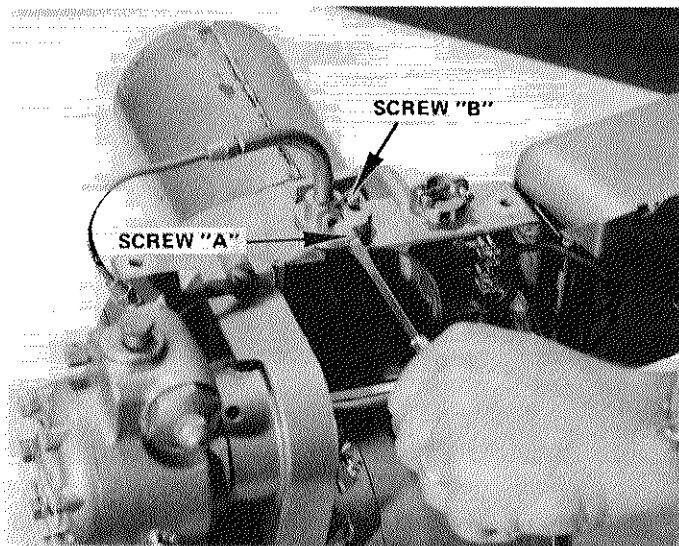
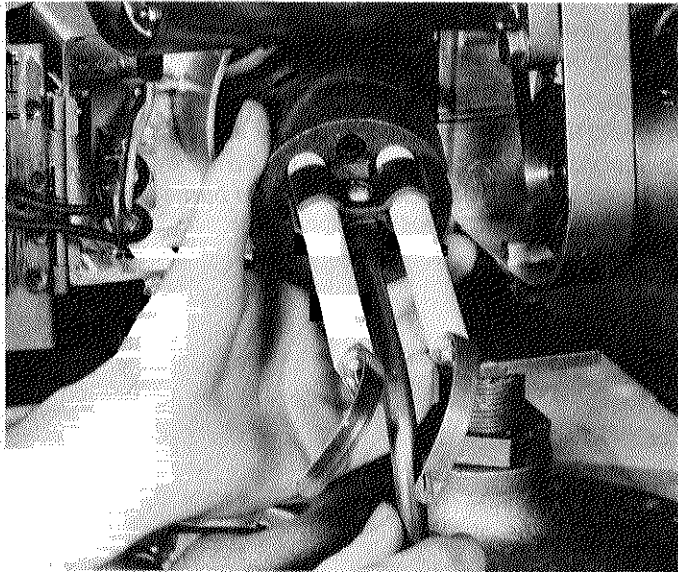
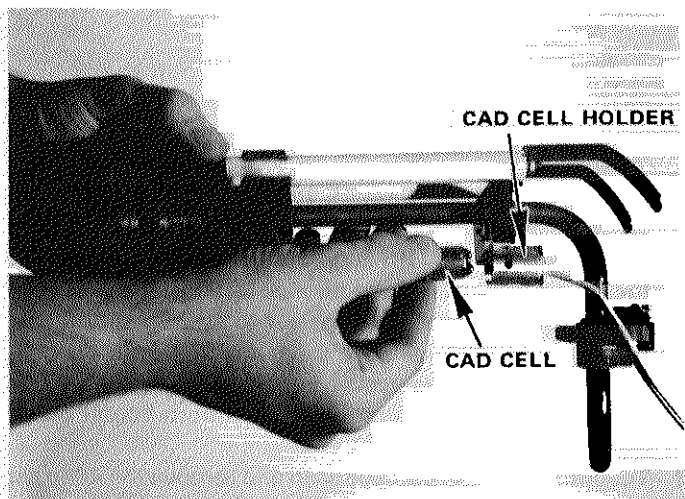

FIGURE 11
FIGURE 12
FIGURE 13
6 - To remove gun assembly, disconnect oil line from oil pipe. In addition on OHP30C burners, loosen and remove the long screw (A) on the oil pipe bearing. Then loosen screw (B) securing oil pipe bearing to the burner housing. See Figure 11. Remove cad cell leads from primary control. Remove gun assembly as shown in Figure 12. On OHP31-10 burners, remove cad cell from holder on oil pipe as shown in Figure 13.